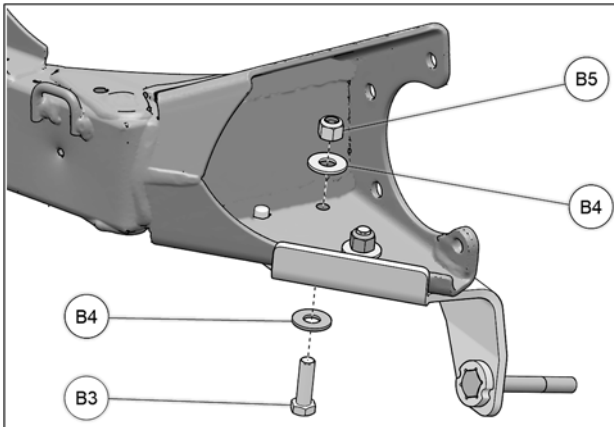

Fig. 10
- Insert a 3/8-24 mounting bolt (**B3**) from the bottom and secure bolt with provided nut (**B5**) and washers (**B4**). Tighten assembly to 40 N•m [37 lb•ft] of torque. See Fig. 10